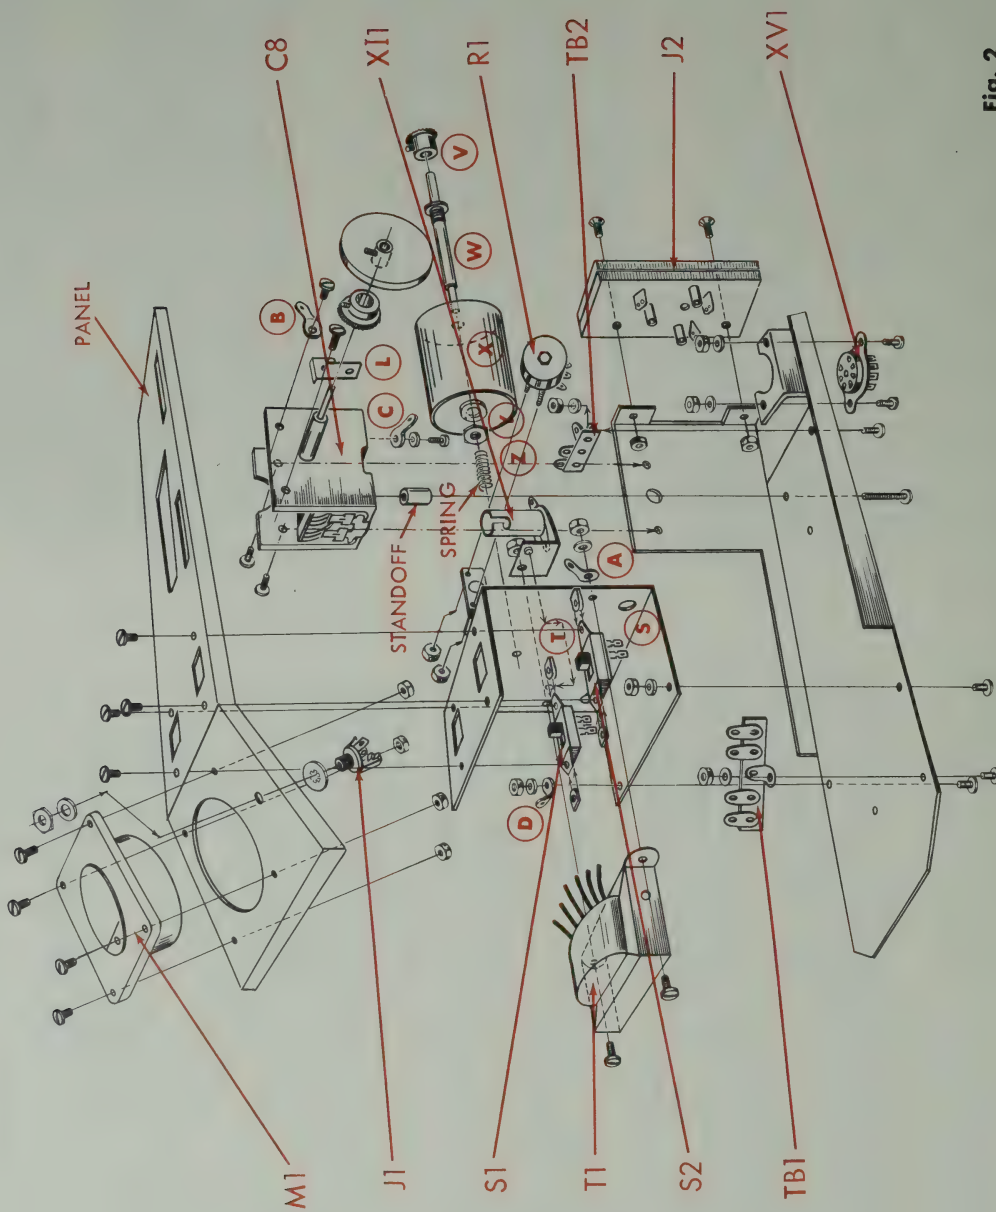
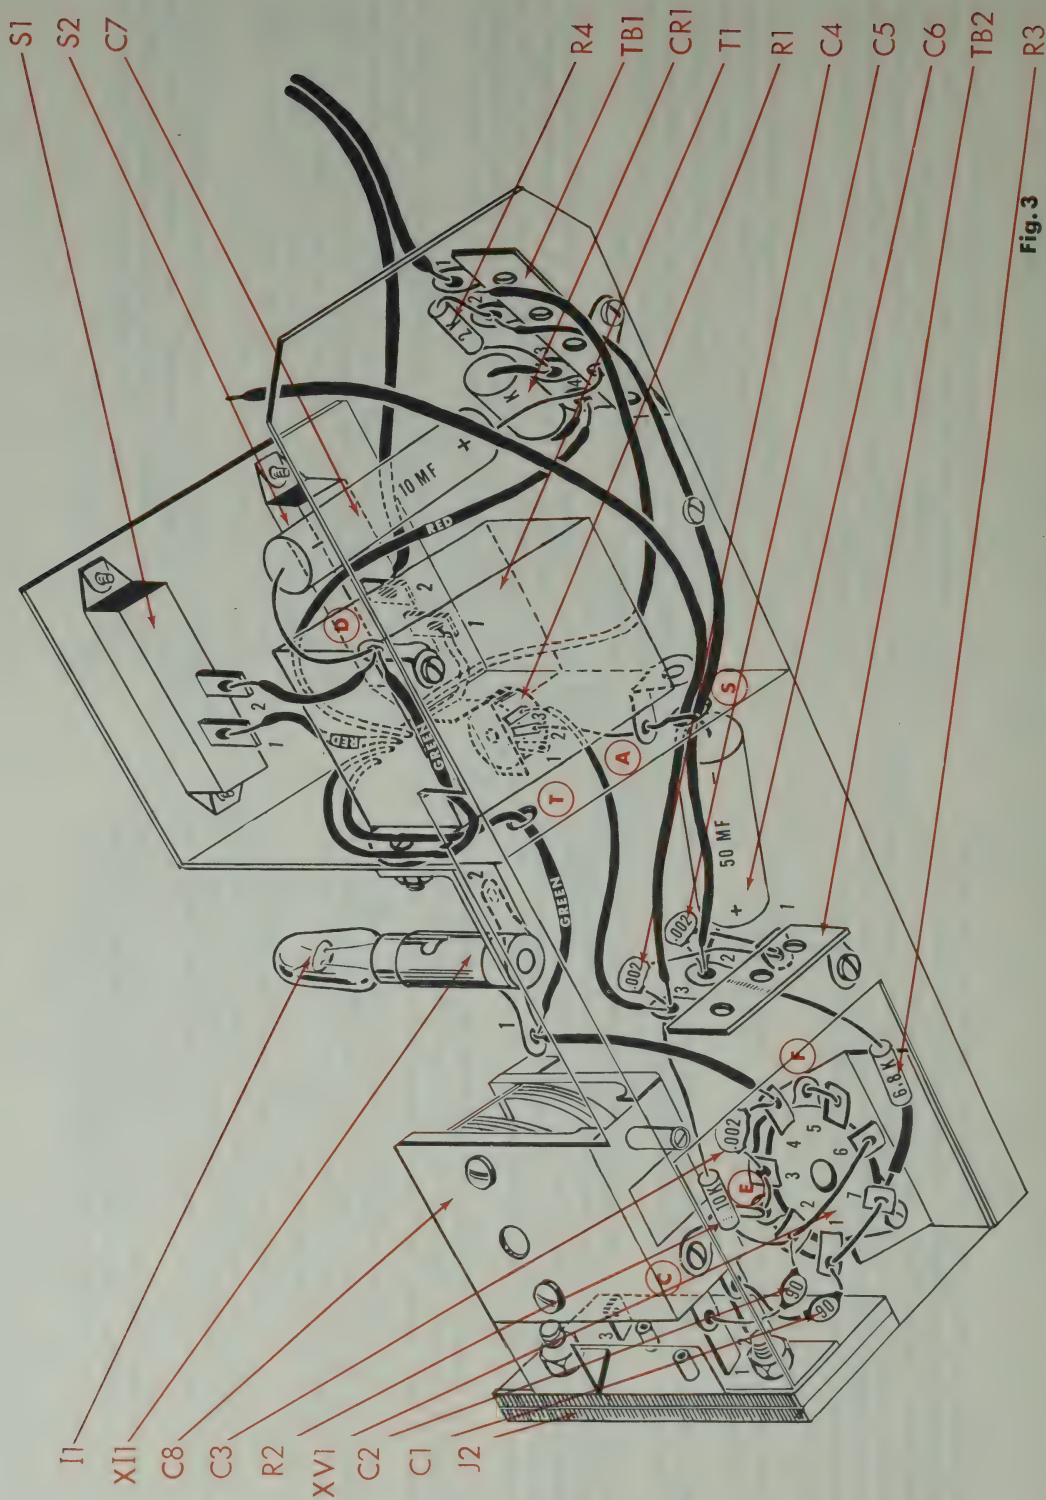

Fig. 2
Fig. 3
Note that the complete assembly of your grid dip meter is shown in figure 2. Letters "L", "V", "W", "X", "Y" and "Z" have been assigned to the components comprising the drum gear assembly. This item will be furnished to you preassembled by EICO. Only the main chassis and "U" bracket assembly will be completed on this page.
() 1. Fig. 2. On the flat back surface of the chassis, you will find very small holes, approximately 1/16" diameter, spotted along the center line. These are intended to receive the self-tapping PK screws which fasten the chassis to the cabinet. However, these small holes must be tapped in order to receive the PK screws easily. Do this by laying the chassis down, overhanging the edge of the work table, so that the flat back surface is parallel to the work table surface. Drive one of the self-tapping PK screws all the way into each of the holes, in order to get a full tap (drive by applying pressure to the screw while turning clockwise with a screwdriver). When you are through, place the PK screw back with the rest of the kit hardware.
() 2. Fig. 2. Mount the seven pin miniature tube socket XV1 prepared above, as shown. Use two #4-40 x 1/4 screws, two #4 lockwashers and two #4-40 x 1/4 hex nuts.
() 3. Fig. 2. Mount the four post terminal strip, TB1, and the two post right with ground terminal strip, TB2, as shown. Use one #4-40 x 1/4 screw, one #4 lockwasher and one #4-40 x 1/4 hex nut on each. Bend the ground lug on TB2 so that it is parallel to the large flat surface of the chassis, pointing towards the tube socket, XV1.
() 4. Fig. 2. The coil receptacle jack consists of two pieces of bakelite riveted together at the center. Three solder lugs surround this center rivet. At the two extremes, are two mounting holes. Mount this jack, J2, as shown. Note the direction of orientation of the solder lugs. Use two #6-32 flat head screws and two #6-32 hex nuts.
() 5. Fig. 2. Turn the plates on the variable capacitor so that they are fully meshed to prevent damage. From below the chassis (large flat surface), push a #4-40 x 5/8 screw through the appropriate hole to mount the variable capacitor, C8, as shown. From above the chassis, place a spacer over the screw. Holding the capacitor as shown, turn the screw into the threaded hole in the bottom frame of the capacitor. Do not tighten this screw yet.
() 6. Fig. 2. Two of the solder lugs on the variable capacitor C8, are near lugs #1 and #2 on the coil receptacle jack J2. The capacitor lugs should touch these receptacle lugs. If they do not, bend the capacitor lugs towards the receptacle lugs until they do touch. On the opposite side of the capacitor, you will find two similar lugs. Cut these off.
() 7. Fig. 2. Mount a #6 solder lug "B" to the side of the variable capacitor frame, C8, as shown. Use one #4-40 x 1/8 screw. Orient this lug and bend it so that it touches lug #3 on coil receptacle jack J2.
() 8. Fig. 2. Mount a #4 solder lug "C" to the bottom of the variable capacitor frame, C8, as shown in figure 3. Use one #4-40 x 1/4 screw and one #4 lockwasher. Orient this lug and bend it so that it touches the nearest ground lug on the socket, XVI.
() 9. Fig. 2. On power transformer, T1, cut one green lead to 3 1/2" and the second green lead to 2 3/4". Cut one red lead to 1 1/4" and the second red lead to 2 5/8". Cut one black lead to 1" and the second black lead to 4 1/4". Strip off 1/4" of the insulation from the end of each lead.
() 10. Fig. 2. Four small triangular Tinnerman nuts are supplied with the kit. These small nuts have two wings, held together by the spring action of the metal. Mount these four nuts on the two slide switch mounting brackets. The Tinnerman nut holes are to coincide with the switch mounting holes. The flat side of the Tinnerman nut must be facing up, so that when looking straight down at the switch, you can see the flat side of the Tinnerman nuts, as well as the switch slider.
() 11. Fig. 2. Place the miniature potentiometer, R1, flat on a table, so that the lugs are facing up towards you. Bend the lugs so that they are parallel to the table, away from the center of the potentiometer, and are against the body of the component. Use two #1-64 hex nuts, (the two smallest nuts in this kit) to mount the pot to the small "L" shaped bracket which has been welded to the "U" bracket. Align the center pin on the pot so that it is concentric with the hole in the "L" bracket. Tighten the nuts. Note the position of the lugs in fig. 5.
() 12. Fig. 2. Mount the "U" shaped bracket to the main chassis, in such a direction that the pilot light socket is next to the variable capacitor, as shown. Use two #4-40 x 1/4 screws, two #4 lockwashers and two #4-40 x 1/4 hex nuts. Under one of the lockwashers, mount the #4 ground lug "D". Do not tighten these screws yet.
Figure 3 is a view of the wiring from below the chassis. Imagine that the chassis is transparent, and that you are looking through the main chassis.
() 1. Fig. 3. From power transformer T1, push the longer green lead through hole "T" in the "U" bracket and connect it to X11-1 (C). Connect the shorter green lead to ground lug "D" (C). Connect the shorter red lead to S1-1 (S1) and the longer red lead to TB1-4 (C). Connect the shorter black lead to S2-1 (S1) and the longer black lead to TB1-1 (C). See figures 4 and 5.
() 2. Fig. 3. Connect a 1 1/2" piece of black wire from S1-2 (S1) to ground lug "D" (C).
() 3. Fig. 3. Connect one end of 5 1/2" of red wire to TB1-2 (C). Push the other end of the wire through hole "S" in the "U" bracket. Connect this end to TB2-2 (C).
() 4. Fig. 3. On the 10 mfd, 150 volt electrolytic capacitor, C7, cut both leads to 1/2". Connect the positive (+) lead to the lower hole, nearest the chassis, in TB1-3 (C) and the negative (-) lead to ground lug "D" (S3). See figure 4. Dress the capacitor close to the power transformer and to the main chassis.
() 5. Fig. 3. Cut both leads on the 2K (red, black, red, silver) resistor, R4, to 1/2". Connect from TB1-2 (S2) to TB1-3 (C). See figure 5.
() 6. Fig. 3. Cut both leads on the selenium rectifier, CR1, to 3/4". Connect the red cathode end to TB1-3 (S3) and the black anode end to TB1-4 (S2). See figure 5. (Make sure you solder the lead coming through the lower hole in TB1-3).
() 7. Fig. 3. Solder lug #2 on the pilot light socket, X11, to the pilot light bracket. See figure 4.
() 8. Fig. 3. Cut both leads on a 90 mmf disc capacitor, C1, to 1/2".
() 9. Fig. 3. On the 90 mmf disc capacitor, C2, cut one lead to 3/4" and the second lead to 1/2". Connect the longer lead to J2-1 (S2) and the shorter lead to XV1-2 (C). Solder the variable capacitor as well as one lead from C1 to J2-1. Keep this capacitor away from C1. (Step 8 above).
() 10. Fig. 3. Connect a 3/4" piece of bare wire from XV1-1 (S2) to XV1-7 (C). Keep wire straight. Cut off any excess wire.
() 11. Fig. 3. Connect a 1" piece of bare wire from XV1-2 (C) to XV1-6 (S1). Keep wire straight. Cut off any excess wire.
() 12. Fig. 3. Connect a 1/2" piece of bare wire from XV1-3 (C) to ground lug "E" (C), on XV1.
() 13. Fig. 3. Solder the ground lug "C" to the ground lug "E" on XV1 as well as the lead connected to ground lug "E" in step 12, above.
() 14. Fig. 3. Connect a 1/2" piece of bare wire from XV1-5 (S1) to ground lug "F" (S1) at XV1.
() 15. Fig. 3. Cut both leads on a .0022mfd (2.2K or 2200mmf) disc capacitor, C3, to 1/2". Connect from XV1-3 (S2) to XV1-4 (C).
() 16. Fig. 3. Cut both leads on a 10K (brown, black, orange, silver) resistor, R2, to 3/4". Connect from XV1-2 (S3) to TB2-3 (C).